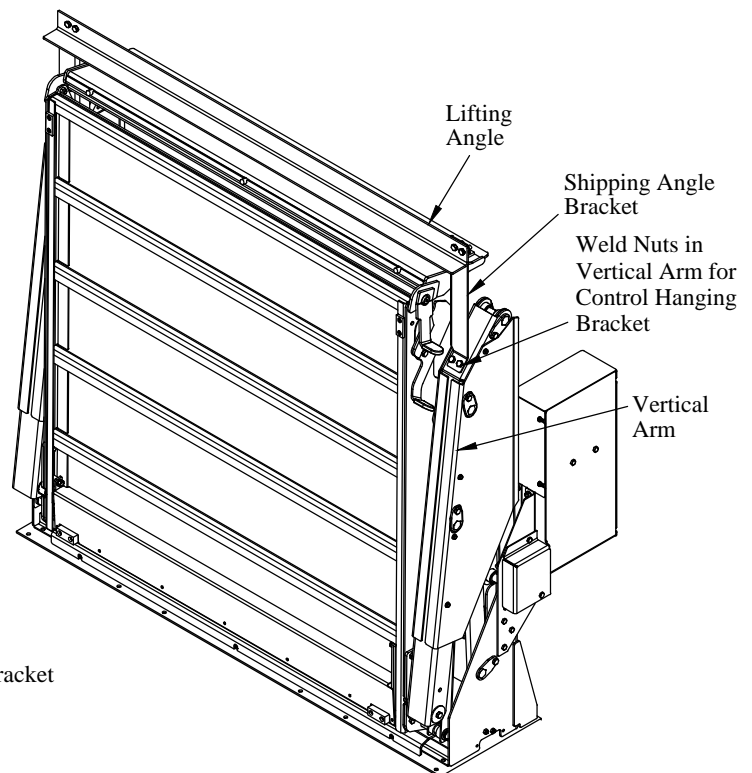

Figure 18: Lifting angle and vertical arm.
5. **Unbolt** and **Remove** the lifting angle and brackets (Figure 18). There are weld nuts inside the vertical arm.
12. **Install** second control hanging bracket with supplied 3/8" bolts on the passenger side vertical arm where the lifting angle was removed (Figure 18).